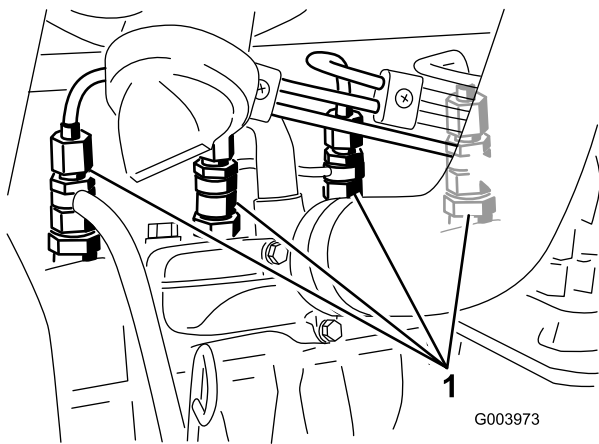

Figure 66
1. Loosen the pipe connection to the No. 1 nozzle and holder assembly (Figure 66).